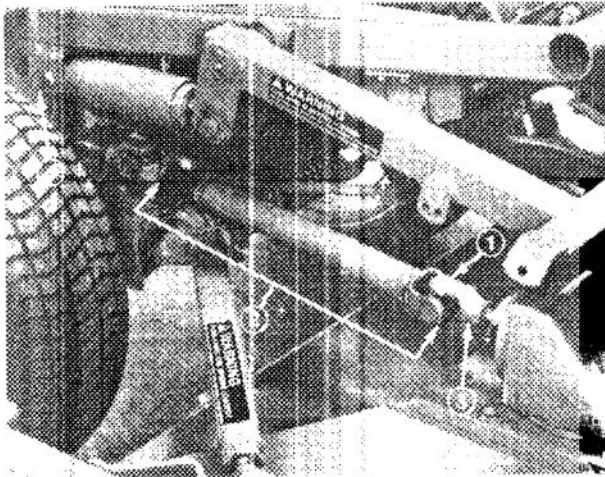

Figure 11
1. Line up holes in yoke and input shaft of gear box. Slide yoke onto shaft (Fig. 11) and secure parts together with roll pin (3/16 x 1-1/2 in.) (38 mm).